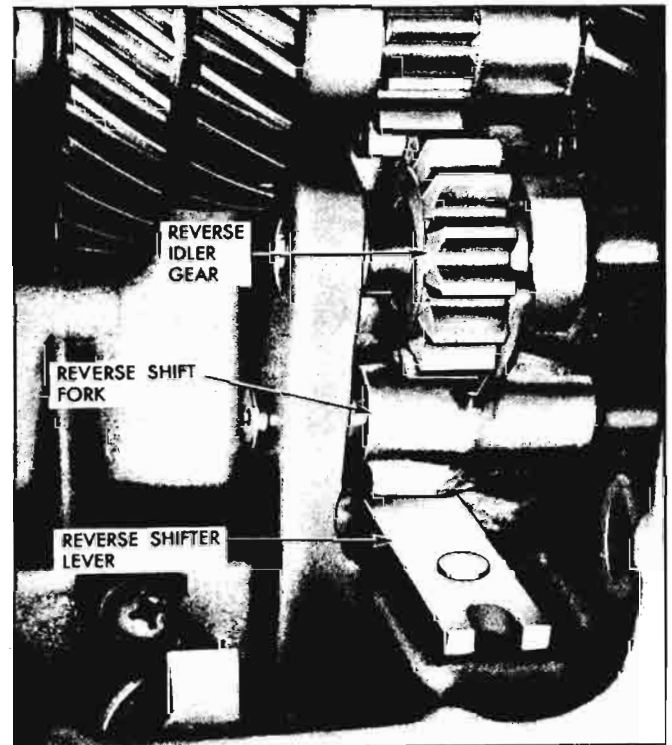

Fig. 6D-50—Installation of Reverse Shifter Lever, Shift Fork, and Reverse Idler Gear
6. Place reverse shifter lever (fig. 6D-50) on pin in case with tapered end away from the reverse inhibitor.